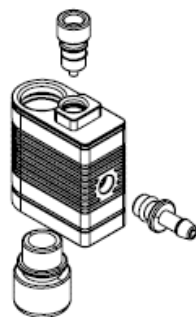

Fig. 7
➔ Disassemble the milk system (4) into its individual parts (Fig. 7).